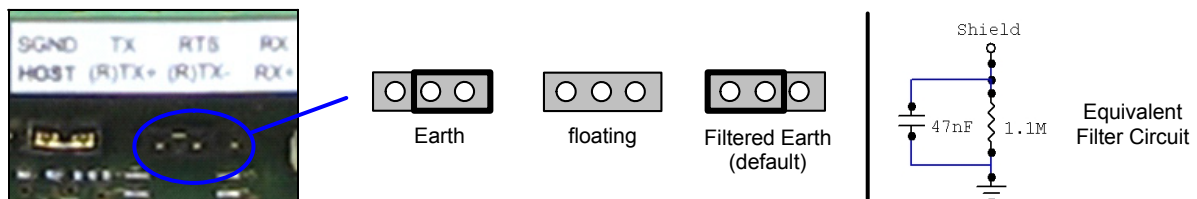

Figure 7 - ID-NET/Host 1 Shield Jumper Settings
- *Connect the Network Cable Shield (Shield) to Filtered Earth through the jumper (default setting, see Figure 7).*